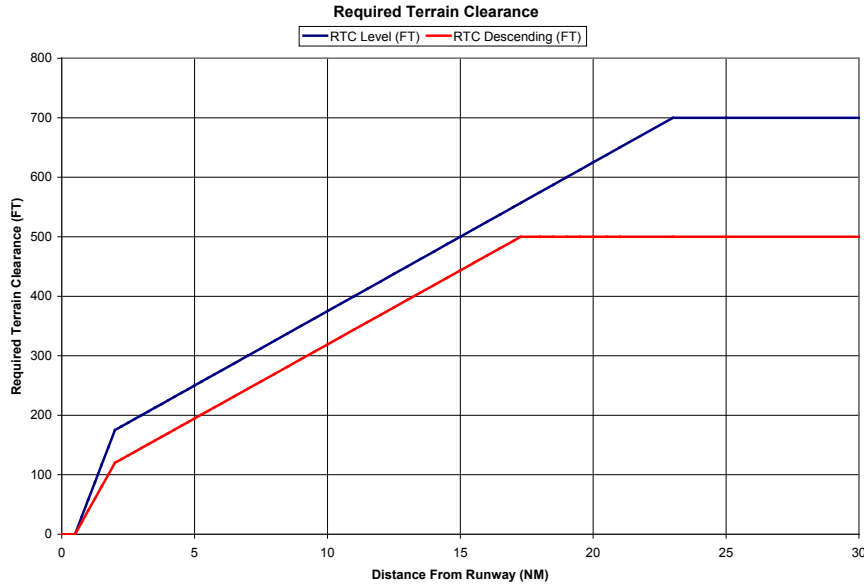

Figure 6-144 FLTA Minimum Terrain and Obstacle Values
**Reduced Required Terrain Clearance (RTC)** and **Reduced Required Obstacle Clearance (ROC)** alerts are issued when the aircraft flight path is above terrain, yet is projected to come within the minimum clearance values in Figure 6-144. When an RTC alert is issued, a potential impact point is displayed on the TAWS-B Page.
**Imminent Terrain Impact (ITI)** and **Imminent Obstacle Impact (IOI)** alerts are issued when the aircraft is below the elevation of a terrain or obstacle cell in the aircraft’s projected path. ITI and IOI alerts are accompanied by a potential impact point displayed on the TAWS-B Page. The alert is annunciated when the projected vertical flight path is calculated to come within minimum clearance altitudes in Figure 6-144.